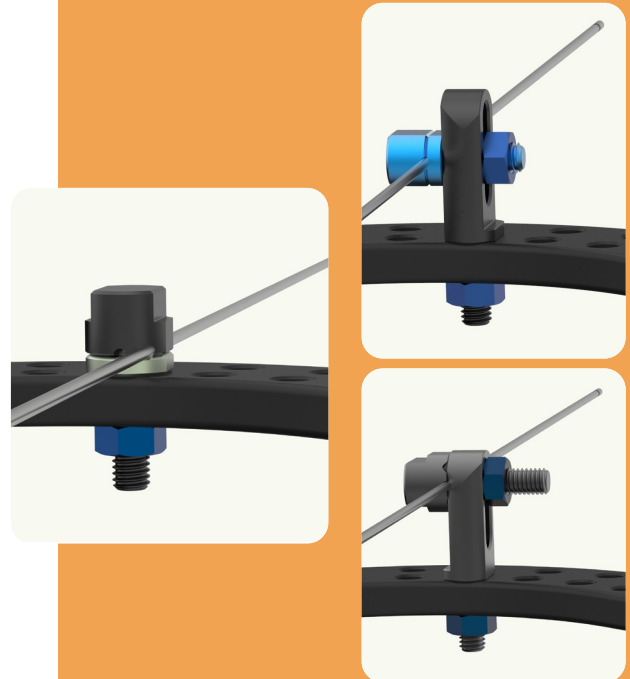

Fig. 6 - Connect Wire to Ring
- 6 Connect the Wire to the Foot Ring using the Standard or Side Load Wire Clamps (with or without Advanced Clamp Posts) (Fig. 6).